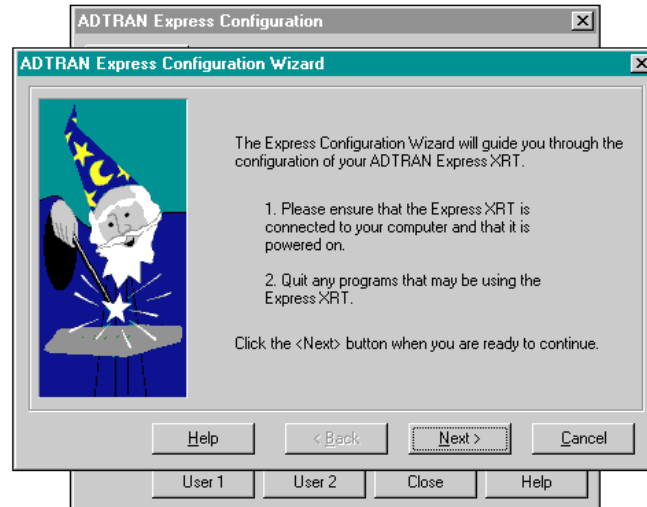

Figure 2-6
6. If you want the Express Configuration Wizard to guide you through the set up process, click **Yes**. The screen shown in Figure 2-6 on page 17 displays. Select **Next**, and the Wizard guides you through the setup process. If you have questions about any of the Wizard screens, click the **Help** button for detailed information.